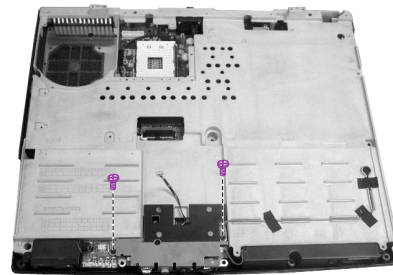

Figure 2-24 Remove the metal shield
5. Remove the two screws fastening the metal shield . (Figure 2-24)